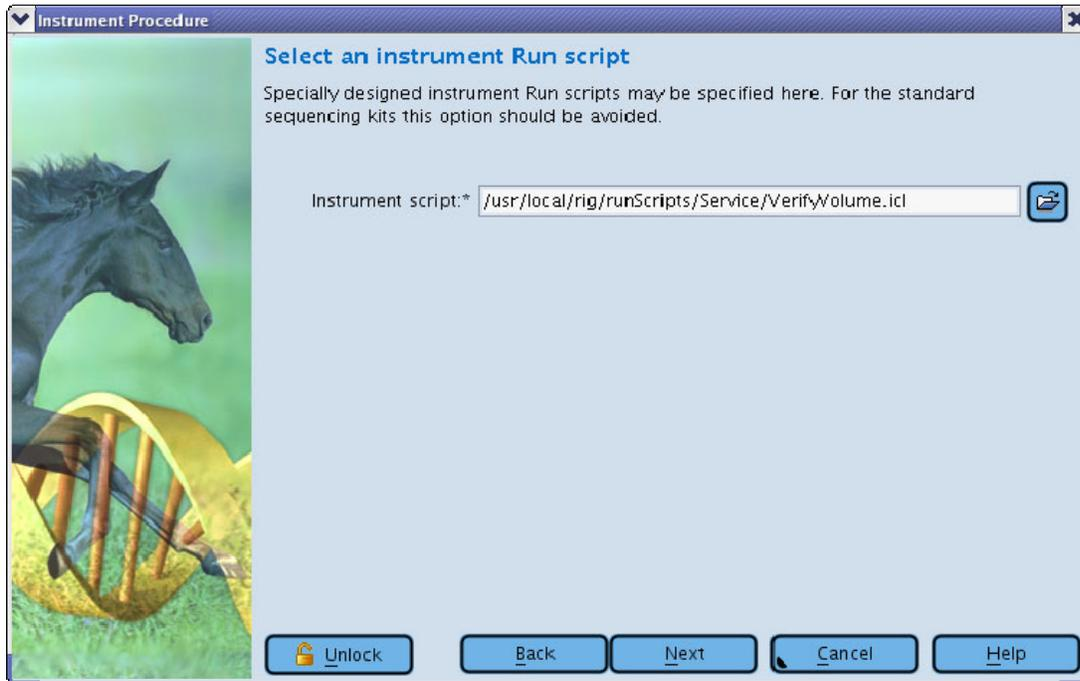

Figure 22: GS Sequencer Run Wizard – 'Select an instrument Run script' window
- Custom script: this option opens the 'Select an instrument Run script' window (Figure 22) where a special .icl file can be specified for the Run. Some of these script files come preinstalled on the instrument and are used by Roche Representatives during service of your Genome Sequencer FLX Instrument.